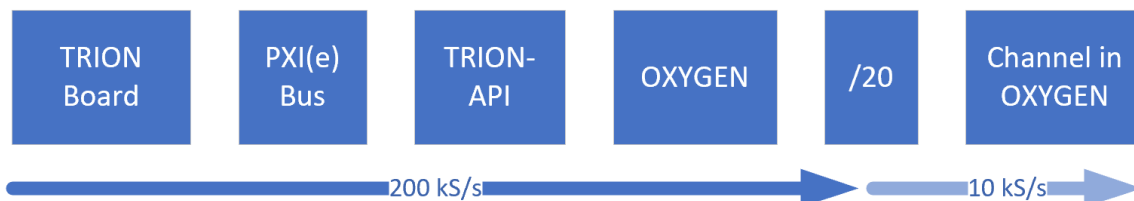

Fig. 7.38: Working principle for the channel-wise sample rate reduction
- A point can be removed by clicking on the – button (see Fig. 7.38)